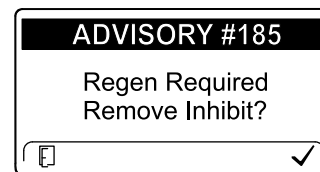

Figure 42
**Note:** If you set the InfoCenter to inhibit regeneration, the InfoCenter displays ADVISORY #185 (Figure 42) every 15 minutes while the engine requests a reset regeneration.